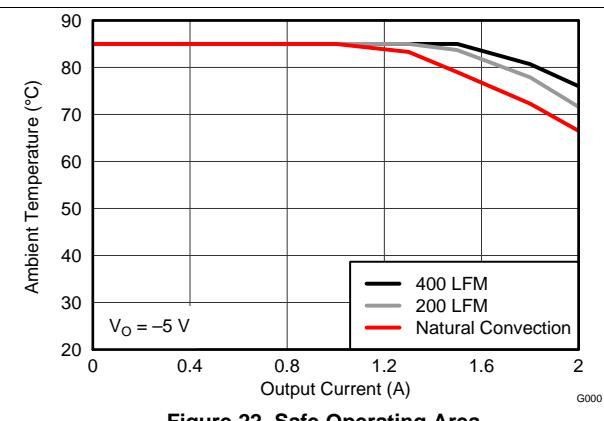
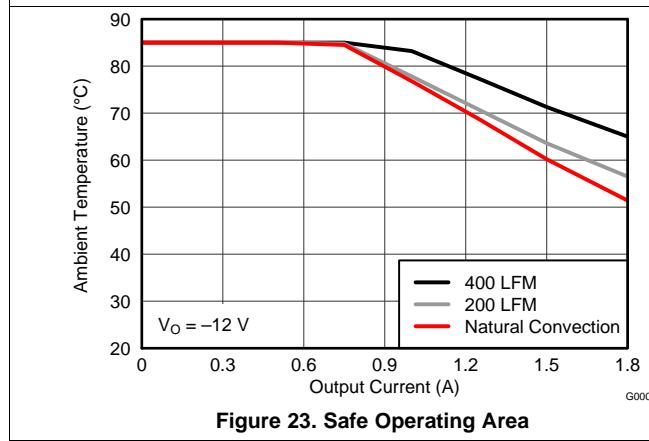
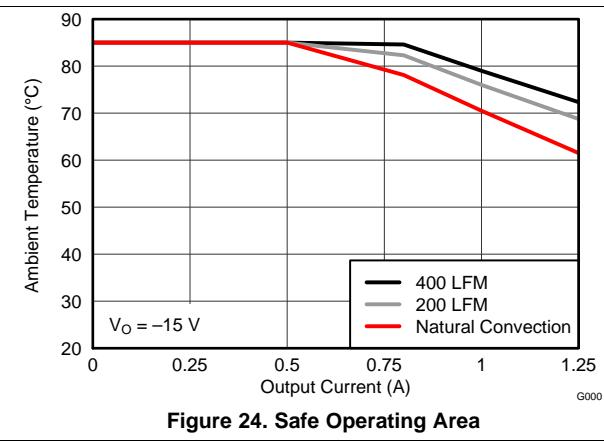

Figure 22. Safe Operating Area
Figure 23. Safe Operating Area
Figure 24. Safe Operating Area
- (3) The temperature derating curves represent the conditions at which internal components are at or below the manufacturer's maximum operating temperatures. Derating limits apply to devices soldered directly to a 100 mm × 100 mm, 4-layer, double-sided PCB with 1 oz. copper. Applies to Figure 22, Figure 23, and Figure 24.